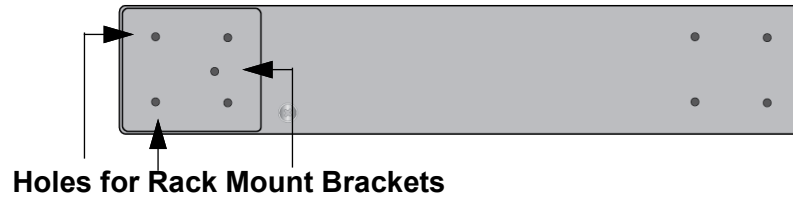

Figure 59. Holes for the Brackets on the x250-28XS, SE250-28XS, x250-28XTm and SE250-28XTm Switches
- ❑ For the x250-28XS, SE250-28XS, x250-28XTm, and SE250-28XTm switches, use three holes on one side to attach the bracket. See Figure 59 for identifying the holes for the brackets on the side panel.